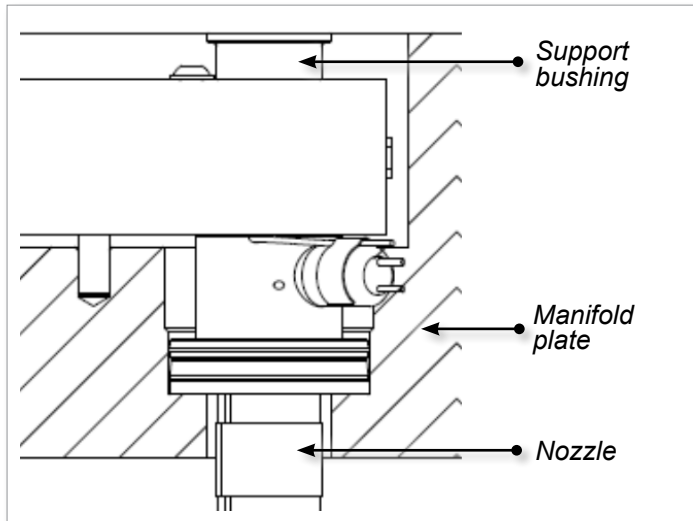

Figure 5-25 Support bushing in Master-Shield systems
- Use a dowel pin to install all of the support bushings into the manifold. See Figure 5-25.